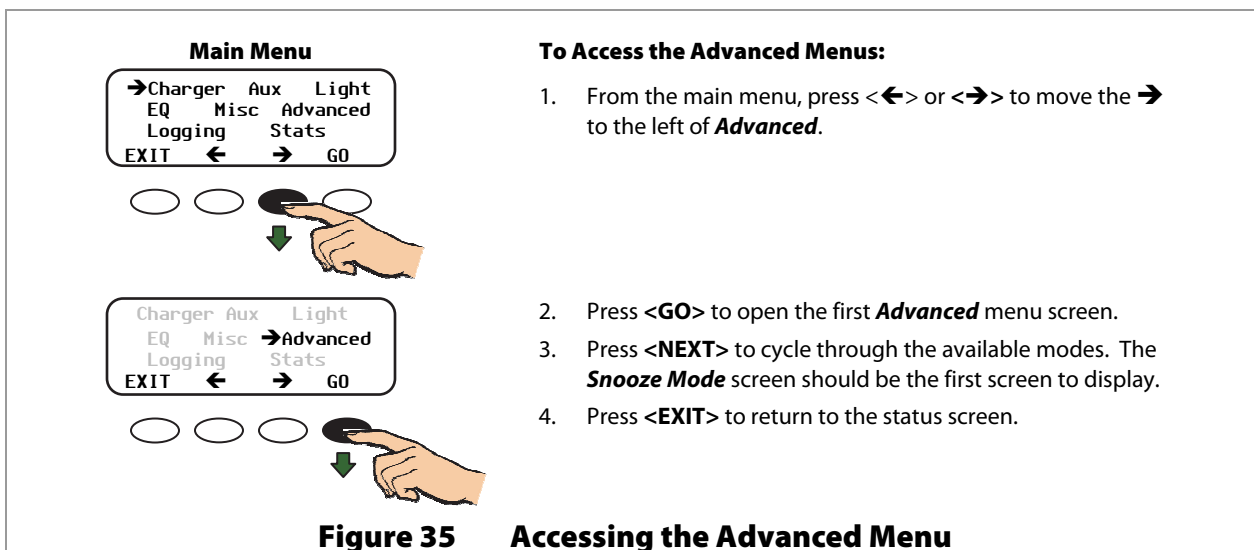

Figure 35 Accessing the Advanced Menu
1. Navigate to the **Wakeup Mode** screen through the **ADVANCED MENU** as instructed in Figure 35.
1. Navigate to the **MPPT Mode** screen through the **ADVANCED MENU** as instructed in Figure 35.
1. Navigate to the **Absorb Time Limits** screen through the **ADVANCED MENU** as instructed in Figure 35.
1. Navigate to the **Absorb End Amps** screen through the **ADVANCED MENU** as instructed in Figure 35.
1. Navigate to the **Rebulk Voltage** screen through the **ADVANCED MENU** as instructed in Figure 35.
1. Navigate to the **Vbatt Calibration** screen through the **ADVANCED MENU** as instructed in Figure 35.